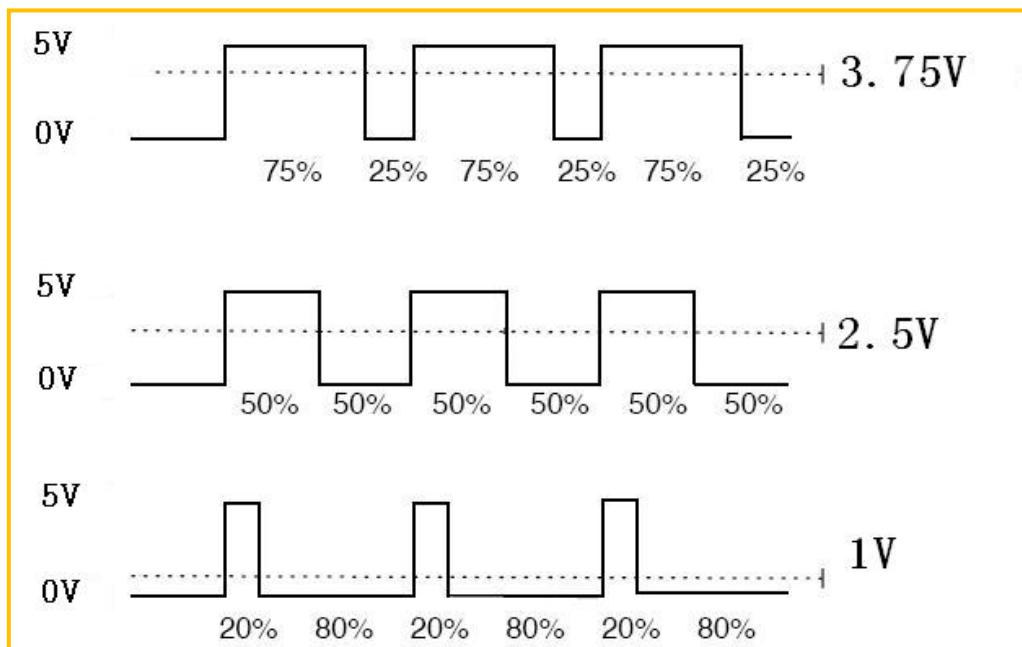

Figure .2.4.6 Relation between Pulse and Voltage
In Arduino, analog voltage can't be output, only 0 or 5V digital voltage value, we can use high resolution counter and the duty cycles of the square wave modulation method to encode a specific level of analog signal. The PWM signal is still digital, because at any given time, the full amplitude of DC power supply is either 5V (ON) or 0V (OFF). The voltage or current source is added to the analog load with a ON or OFF repetitive pulse sequence. When the DC power supply is added to the load, the power supply is on, otherwise the power supply is off. As long as the bandwidth is enough, any analog value can use PWM to encode. The output voltage value is calculated by the on and off time. Output voltage = (turn-on time / pulse time) * maximum voltage. Fig.2.4.6 shows the corresponding voltage to the pulse change.